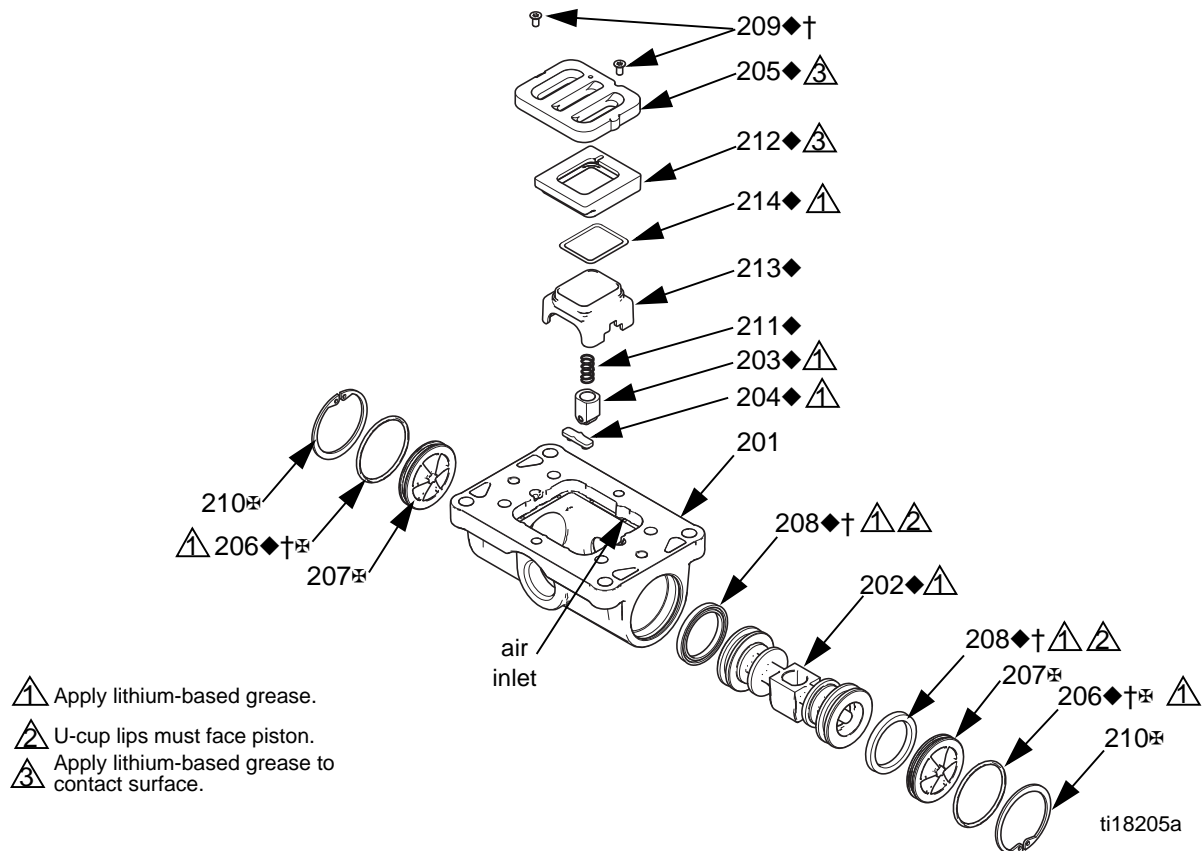

FIG. 3. Air valve assembly
2. See FIG. 3. Use a Torx screwdriver (T8 for aluminum centers, T9 for plastic centers) to remove two screws (209). Remove the valve plate (205), cup assembly (212-214), spring (211), and detent assembly (203).
3. Pull the cup (213) off of the base (212). Remove the o-ring (214) from the cup.
4. See FIG. 3. Remove the retaining ring (210) from each end of the air valve. Use the piston (202) to push the end caps (207, 217) out of the ends. Remove end cap o-rings (206).
5. Remove the u-cup seals (208) from each end of the piston (202), then remove the piston. Remove the detent cam (204) from the air valve housing (201).